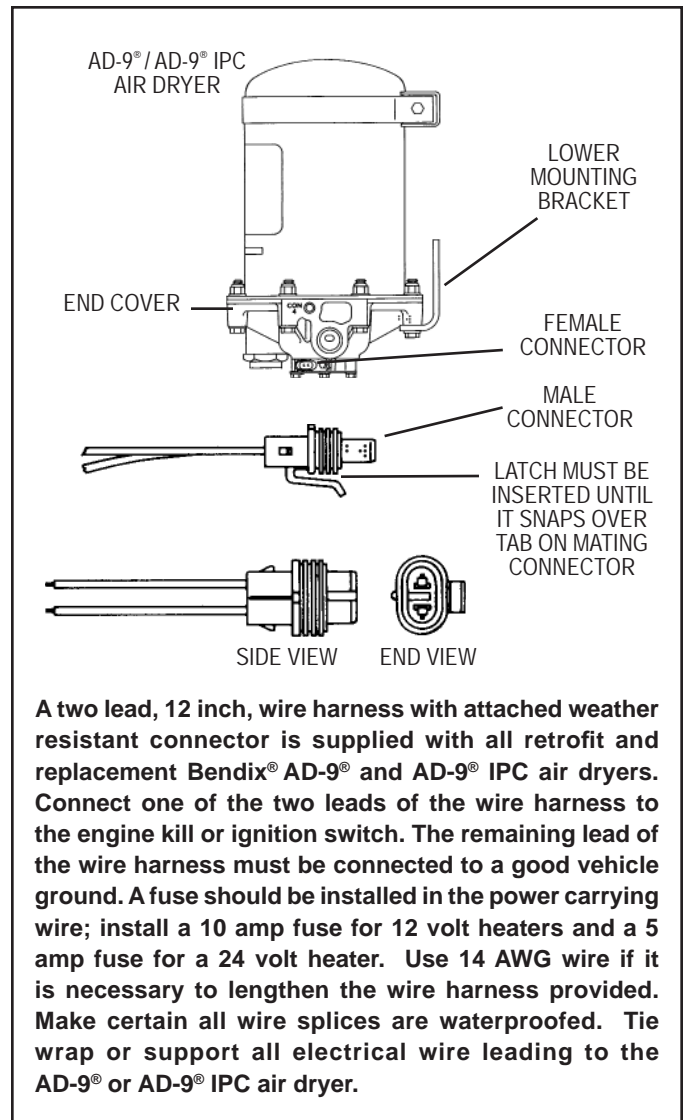

FIGURE 6 - HEATER AND THERMOSTAT CONNECTOR
4. Unplug the vehicle wiring harness from the heater and thermostat assembly connector on the purge valve housing assembly. See Figure 6.